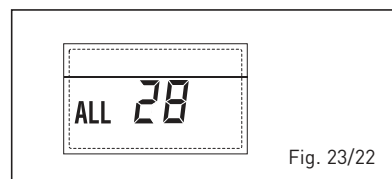

Fig. 23/22
- ERROR NUMBERS RELATED BOARD "ALL 29" (fig. 23/23)